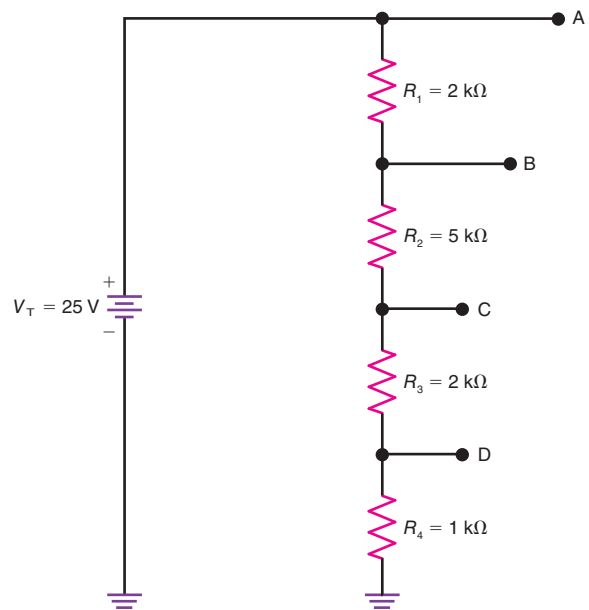

Figure 13-20 Series voltage divider.
13.18 Table 13-3 shows voltage measurements taken in Fig. 13-20. The first row shows the normal values when the circuit is operating properly. Rows 2 to 9 are voltage measurements taken when one component in the circuit has failed. For each row,
Table 13-3 Voltage Measurements Taken in Fig. 13-20